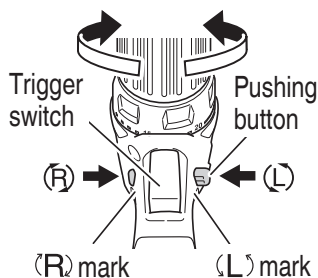

Fig. 9
The L-side of the pushing button is pushed to turn the bit counterclockwise. (See Fig. 9) (The (L) and (R) marks are provided on the body.)